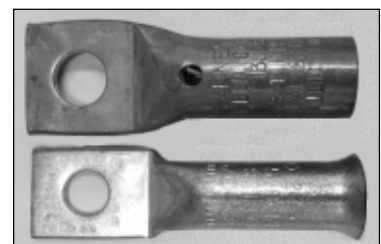

Figure 4 — Correct Terminal
5. If the terminal size is marked 2/0 or 3/0 and has a square top (refer to Figure 4), the cable and terminal are correct and do not need to be replaced.